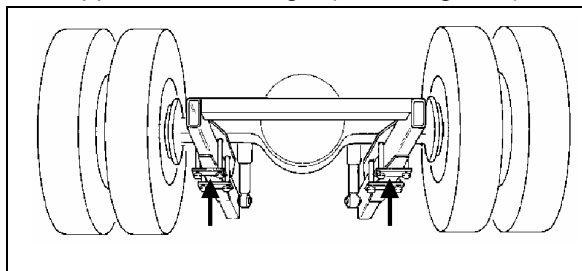
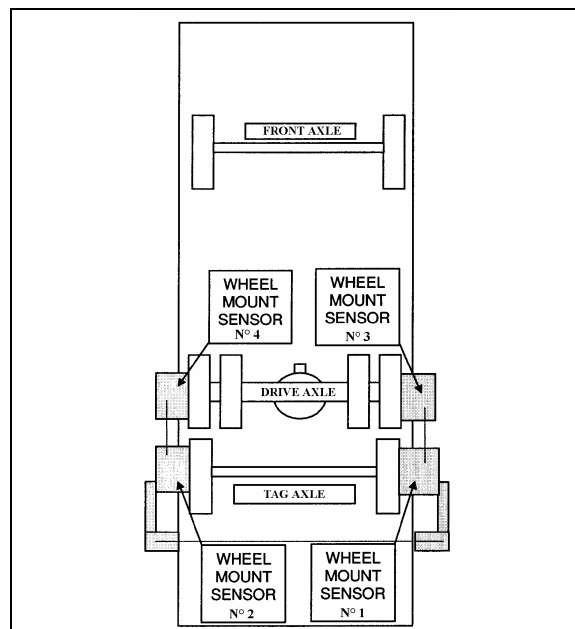

FIGURE 6: JACKING POINTS ON DRIVE AXLE
FIGURE 8: TAG AXLE ALIGNMENT 11026
8. Install jacks under the axle jacking points to support the axle weight (refer to figure 6).
- Remove and reinstall all wheel mount sensors on the drive and tag axes (fig. 8);
Note: Reinstall wheel mount sensors as shown in figure 8. For example, the sensor from the right side of the front axle is mounted on the left side of the tag axle. For corresponding wheel mount sensor reference numbers, refer to figure 6.